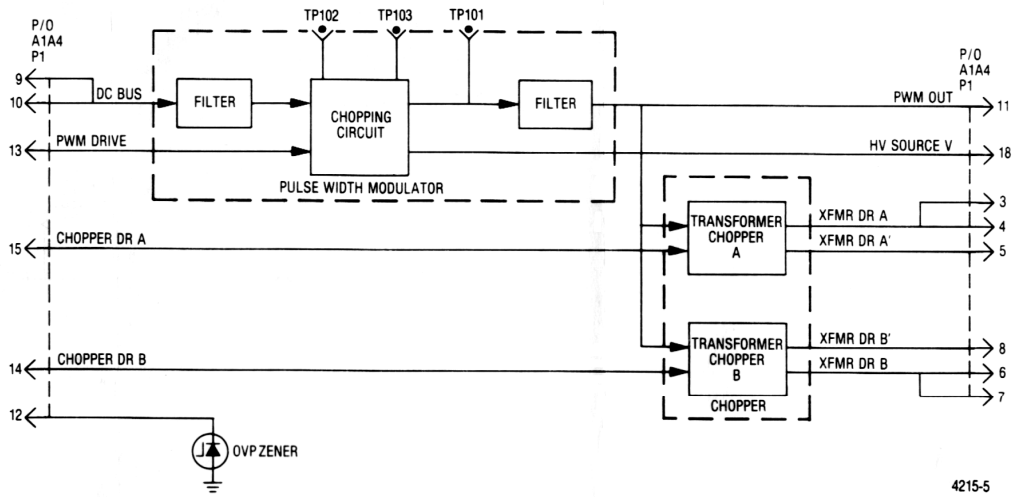

Figure 7-4. Low Voltage Power Supply Switcher Module A1A1 Block Diagram
14. **SWITCHER MODULE A1A1.** The switcher module (figure 7-4) contains the pulse width modulator and upper circuits. The input PWM DRIVE signal, from the control module, switches the chopping circuit on and off, producing a rectangular wave output which is filtered and applied to transformer choppers A and B. In effect, this signal regulates the voltage which is applied to transformer T201 on the output module. The PWM OUT signal is a secondary input to the voltage regulator/comparator on the control module.